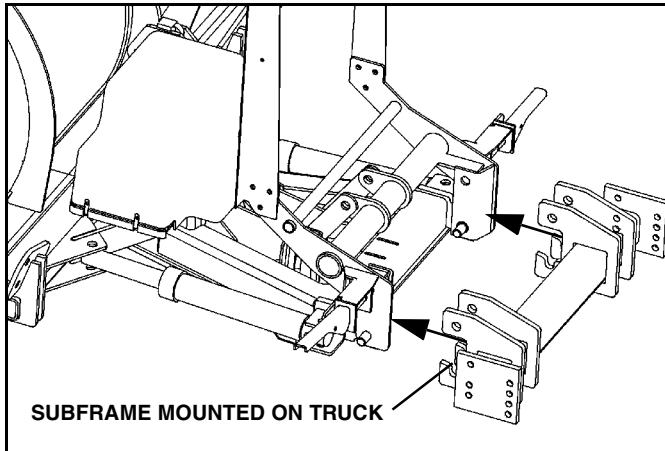

Figure 1-6
1. Drive truck into plow. Align light/lift bar frame inside of sub-frame lugs. Pins should fit inside slots cut into sub-frame lugs. (See Figure 1-6)